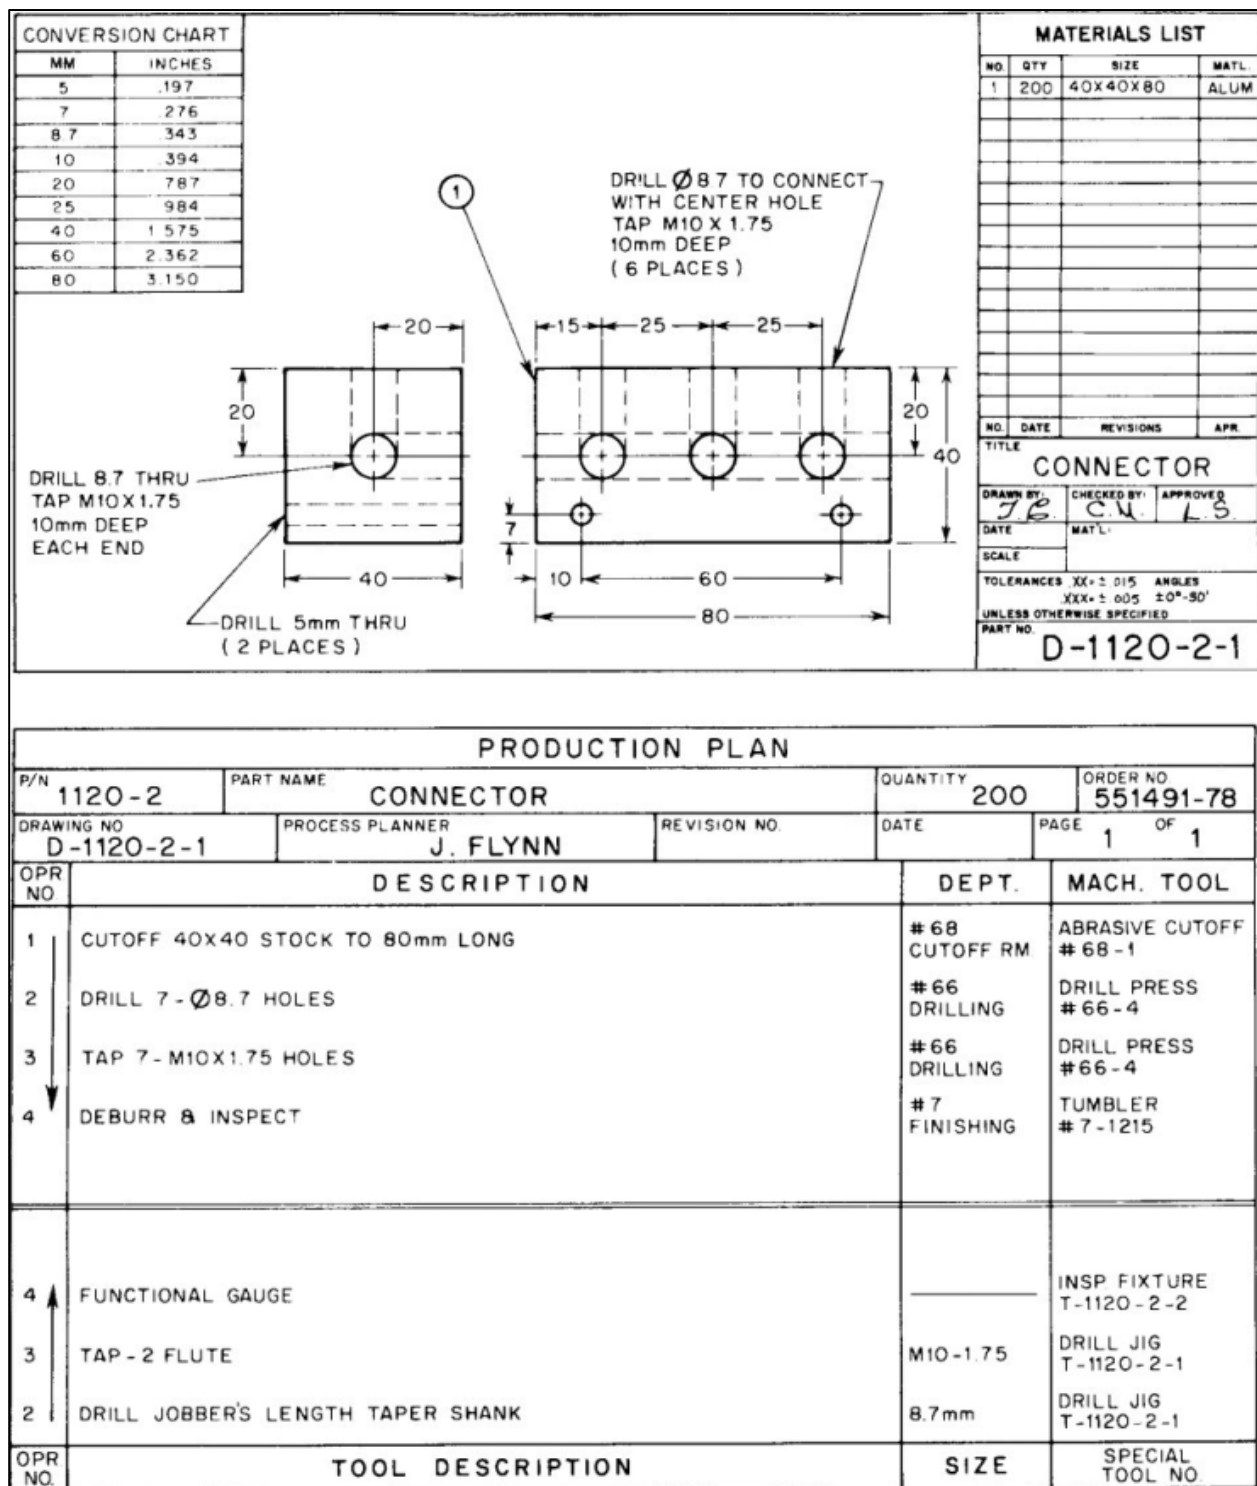

Fig. Qn 4 (a)
- a) Analyze the part drawing and production plan shown in Fig. Qn 4 and determine all the relevant information necessary to design a channel or box Jig (15 marks)